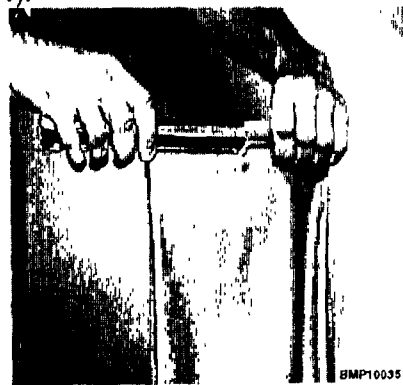
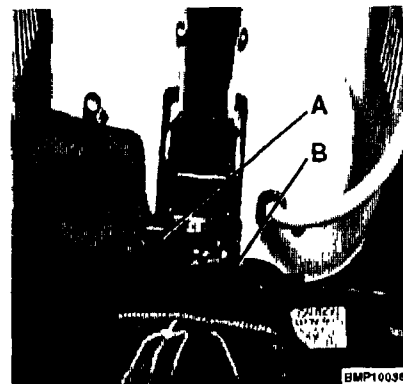
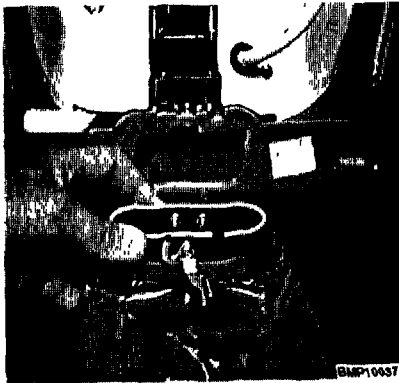

Figure 11
Figure 12
Figure 14
Slide top of bag out of open end of clamp (Figure 11). It is not necessary to remove clamp from handle. Remove bag from cleaner by pulling back lever arm (A) on bag collar (Figure 12).
Place tab on bottom of bag collar into slot on cleaner base (Figure 14). Push collar forward so locator pin (B) fits into slot and push lever arm (A) forward to lock bag in place (Figure 12). Slide top of bag back in clamp (Figure 11).